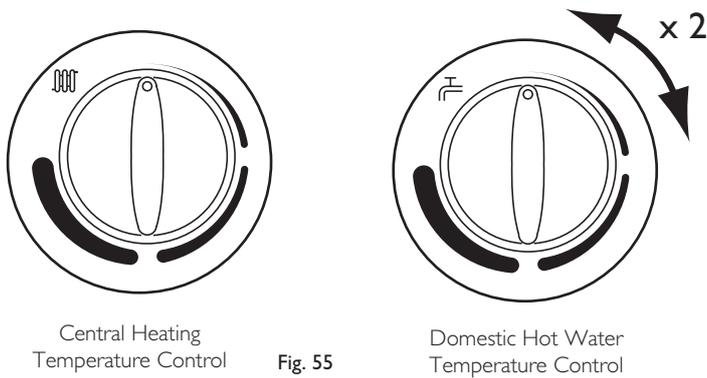

Fig. 55
3. Ensure that the integral timer and any external controls are calling for heat, and the selector switch is in the central heating and hot water position (SF). The current boiler temperature is shown on the display.
5. Turn both temperature control knobs fully anticlockwise, then quickly turn the DHW temperature knob 1/4 clockwise twice and back fully anticlockwise (Fig. 55).